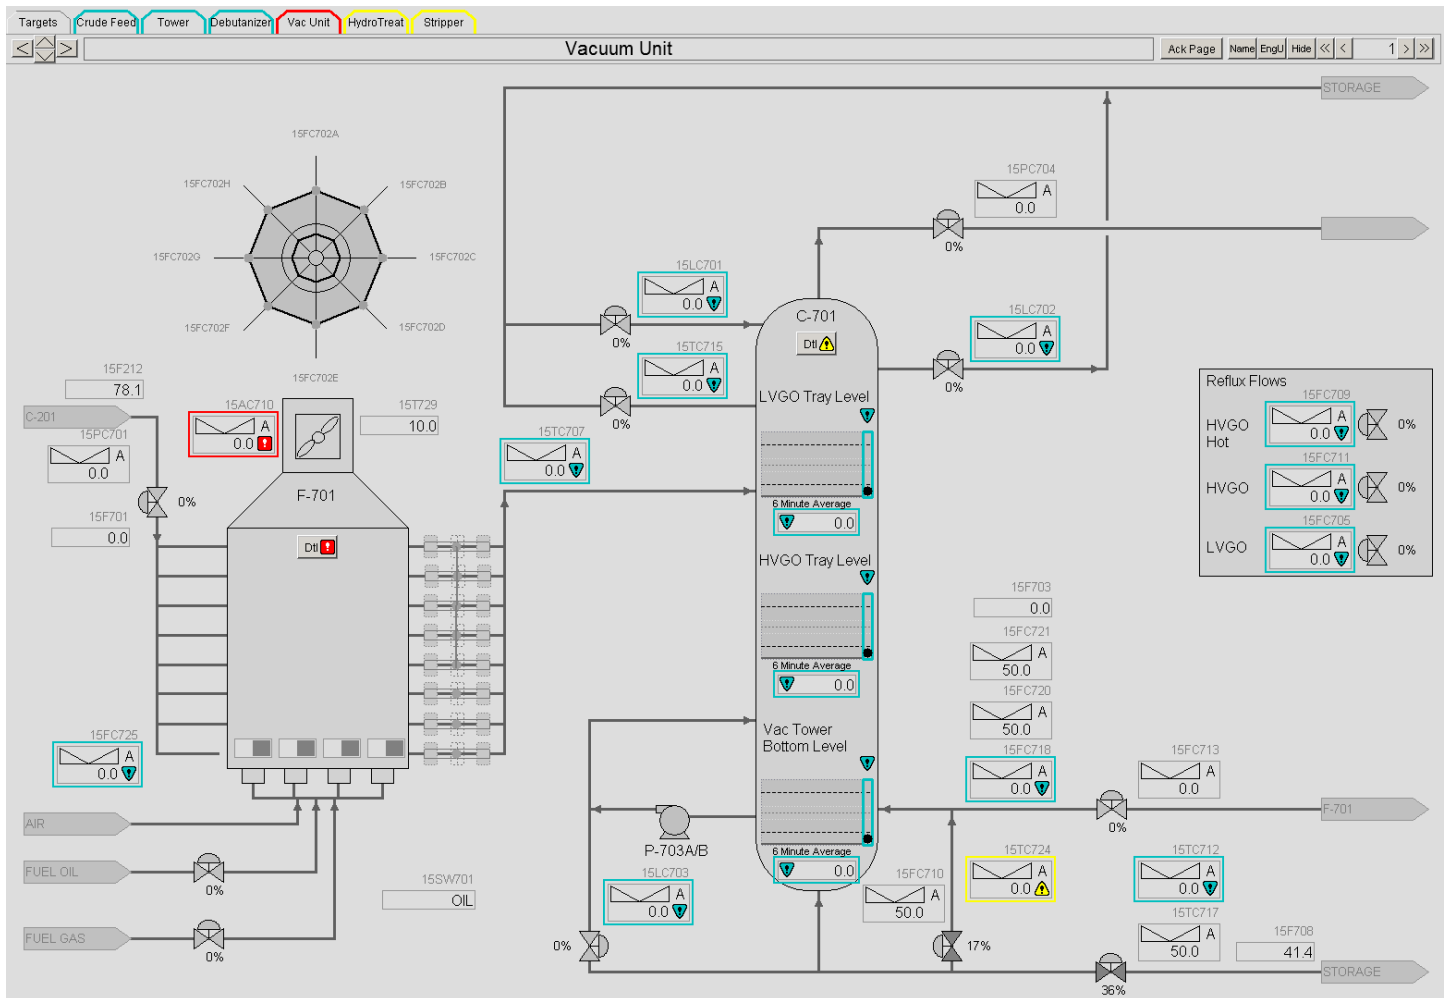

Figure 6: Level-2 Process Unit Overview Display
Level-2 graphic displays serve a dual purpose. They provide information about key elements of the plant unit, and they are also used to allow operators to intervene in common/critical abnormal situations. Often, variables from several locations in the process need to be accessed to allow the operator to properly intervene and then monitor the results of that intervention. Level-2 displays have this information gathered in one place. An example is shown in Figure 6.
**Notice!** Please note that the some of the graphical objects used in Level2 display in Figure 6 like the Trends and Temperature profile lines are part of the Advanced HMIWeb Solution Pack library which is a licensed option.